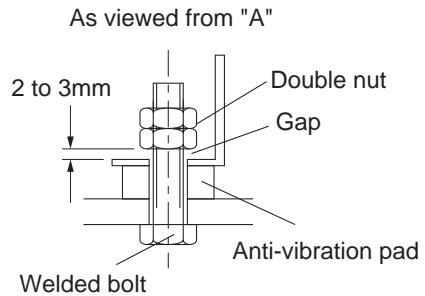

Fig.1
- ① Install in a horizontal (level) manner to evenly distribute the weight of the drain pipe discharge and the anti-vibration pads.
- ② When installing the product on top of another machine, etc., secure it with bolts to prevent shifting due to vibration.
- ③ Leave a gap at the securing bolts to allow the anti-vibration pads to function properly (See Fig.1).